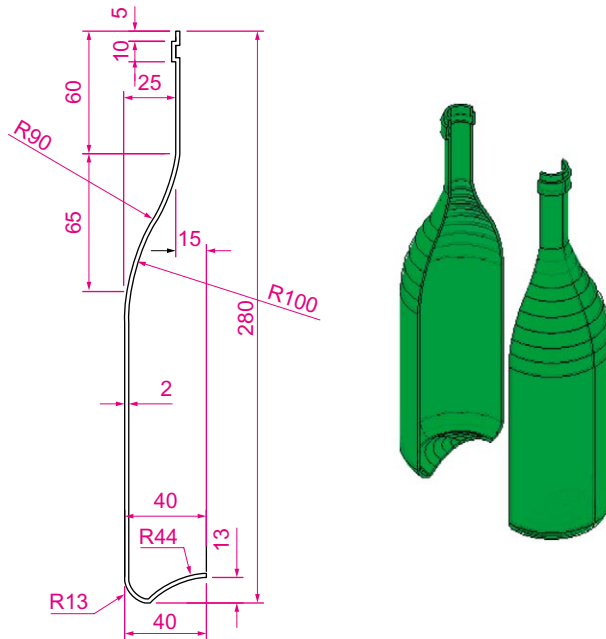

Fig. 14.25 Second example – Slice
Second example – Slice (Fig. 14.25)
1. On a layer of colour **Green**, construct the closed pline shown in the left-hand drawing (Fig. 14.25) and with the **Revolve** tool, form a solid of revolution from the pline.
The right-hand illustration of Fig. 14.25 shows the result.